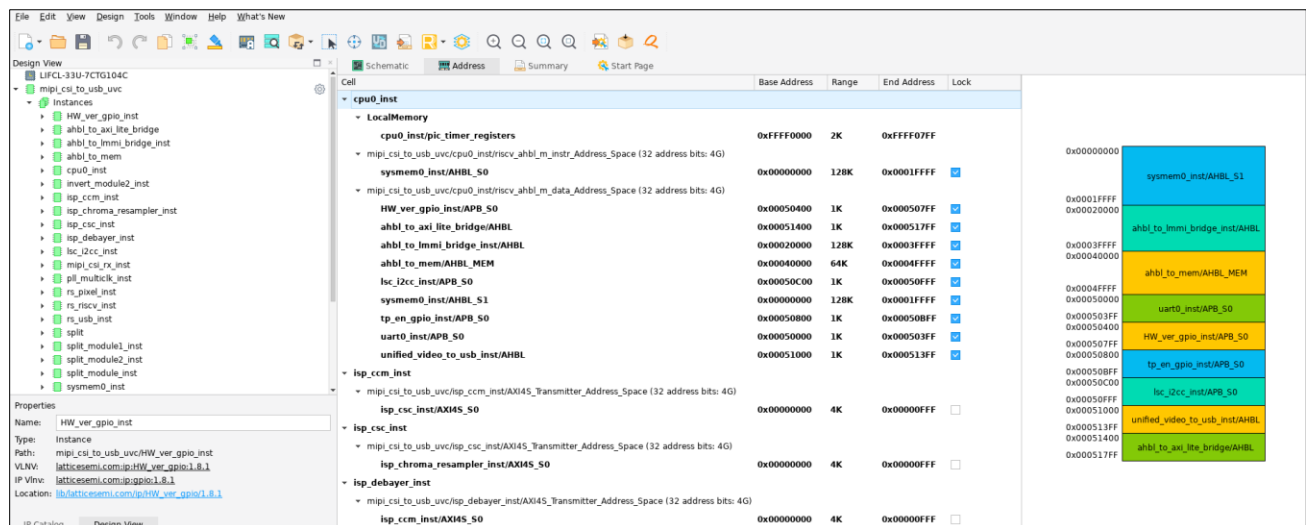

Figure 5.13. Base Address Assignment
- Click the **Address** tab to review the base address assignment for the system and all peripherals within the Propel Builder Project, as shown in Figure 5.13.